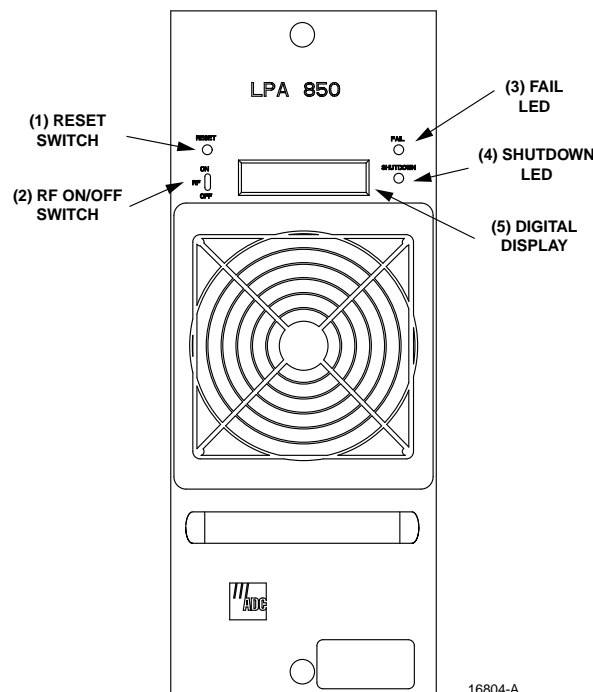

Figure 2. Linear Power Amplifier User Interface
The LPA user interface consists of the various LEDs, message displays, and switches that are provided on the LPA front panel. The LPA user interface points are described in Table 3 and indicated in Figure 2.
The WDM user interface consists of a connector and two trailing cables provided on the WDM front panel. The WDM user interface connectors are described in Table 4 and indicated in Figure 2.
1. Check to ensure that the RF ON/OFF switch on the LPA is set to OFF (refer to item 2 on Figure 2).